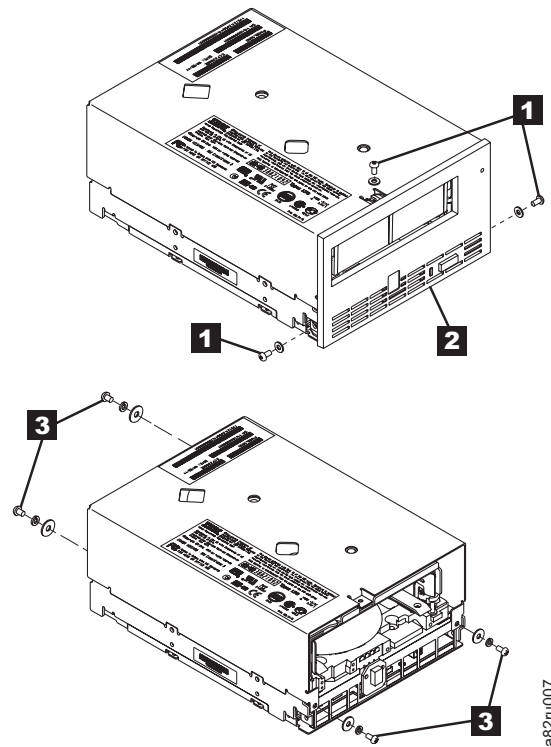

Figure 6-1. Removing the cover from the internal drive
- a. Using a Phillips screwdriver, remove the three screws and washers (see **1** in Figure 6-1) that secure the bezel **2** to the internal drive, then remove the bezel.